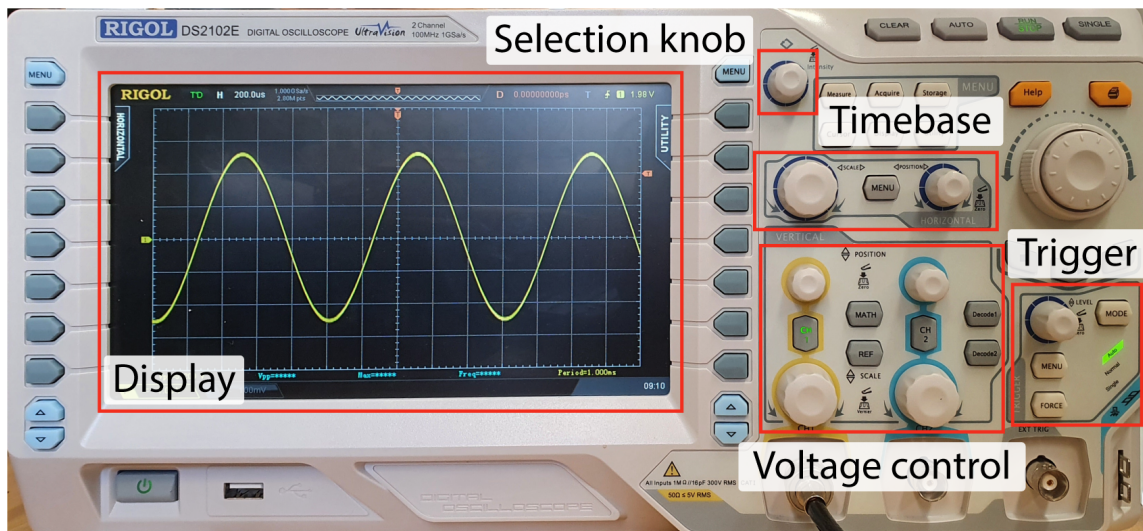

Figure 4: An annotated image of the DSO interface
Shown in figure 4 is an annotated screenshot from the DSO, recorded whilst a square pulse signal was connected the oscilloscope. The display shows a trace of the signal voltage versus time, with a signal connected into channel one (CH1) appearing in yellow. To interpret the signal, we begin by looking at the signal amplitude. Shown in the bottom left is the *volts per division*, which in this case is 1 V per division. The signal pulse rises five divisions from *low* to *high*, thus the amplitude of the signal is 5 V. The voltage offset marker indicates the point of $V = 0$ V, which in this case corresponds to the axis, and thus the signal is best characterised as a ± 2.5 V pulse, with *low* and *high* state voltages of -2.5 V and 2.5 V respectively. To determine the duration of the *high* pulse, one must look at the *time base*, which indicates the time per horizontal division, which in this case is $100 \mu\text{s}$.
One arrives at the solution by designing a way to “align” traces, which can be done via a number of methods, but the most common is to find a defining feature of the trace as the point to use as $t = 0$. For example, in the case of the square pulse shown in figure 4, one could locate the rising edge of the pulse and locate this at the time $t = 0$. Indeed, this is what is happening: as indicated by the *trigger* level on the right, every time a pulse is measured having a rising edge which passes the voltage of $V = 1.48 \text{ V}$ (this value is arbitrary) the DSO is “triggered” to update, displaying the triggering event at $t = 0$. In the case of a periodic signal, this has the effect of removing aliasing and ensuring that the signal does not appear to propagate. Animations showing a periodic signal being refreshed at a rate of 50 Hz illustrate a DSO displaying a signal with aliasing and triggering.
Shown in figure 4 is an annotated image of the DSO. The display has been discussed in detail above, but the purpose of this image is to illustrate that although there are many buttons and knobs on an oscilloscope, they are neatly grouped and one needn’t have full command over the entire interface, rather it is important to have good command over the controls which maximise functionality. Notably, there are two key sections of which to be aware, which themselves are grouped on the panel, which are the VERTICAL and HORIZONTAL controls, which adjust the voltage and time scales respectively. On the right is the TRIGGER panel, which as explained above is critical to making a meaningful measurement. As a general, you will adjust the VERTICAL and HORIZONTAL settings regularly to investigate the quantities of interest, whereas adjustment of the TRIGGER is typically only required when the input signal is changed.
3. The first task is to correctly set voltage and time scales. The order of these operations is not important, but depending on the exact signal to be measured it may be preferable to do one before the other. In any case, any *a priori* information you have about the signal will help you estimate the appropriate voltage and/or time scale(s). If the signal is connected to CH1, the signal and associated settings are highlighted in yellow, and if the signal is connected to CH2, the signal and settings are highlighted in blue. We must first ensure that the signal is being collected, which is toggled by the CH 1 (or CH 2) button within the VERTICAL panel (see figure 4). Pressing the CH 1 button will enable/disable measurement, as indicated by the LED backlight, in addition to showing a channel configuration menu on the right-hand side of the screen. These settings will need not be altered unless one is attempting a non-trivial measurement.
The trigger level is the voltage at which the rising edge must pass in order to trigger. For a signal that oscillates between some voltage $V = \pm V_0$, like that seen in figure 4, it makes sense that the trigger level be set to $V = 0$ V as this corresponds to the steepest point of the curve and thus be more accurately located. In the case of a sharp pulse like that shown in figure 4, setting the trigger level anywhere within the jump for the *low* state to the *high* state would be largely equivalent. To adjust the trigger level, use the LEVEL control within the TRIGGER panel, and observe that the level is indicated on the display in the top right-hand corner of the display, in addition to a thin, orange, dashed line of constant voltage being displayed during, and shortly after, level adjustment. If the level is off the screen, you can push the LEVEL knob to set the level to 0 V. With the trigger level appropriately set, the DSO should be recording and displaying the signal; the voltage scale and timebase settings can be tweaked to achieve the optimal viewing of the signal.